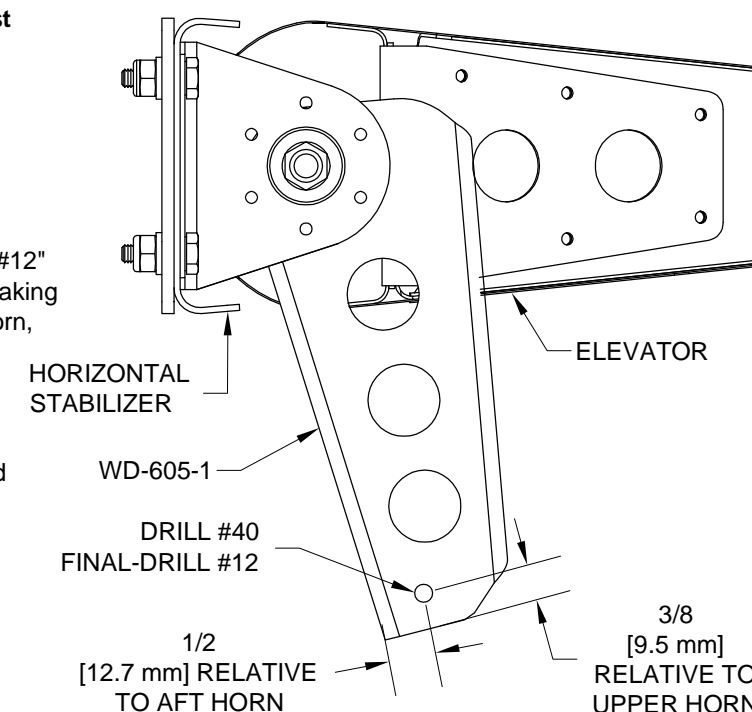

FIGURE 5: ELEVATOR PUSHROD BOLT HOLE
Step 9: Locate the hole indicated by the "DRILL #40/ FINAL-DRILL #12" call-out in Figure 5 by selecting the AFT MOST elevator horn and making a mark 1/2 [12.7 mm] from the front flange. On the same elevator horn, make a mark 3/8 [9.5 mm] from the bottom end of the UPPER horn. Locating the hole in this way guarantees proper edge distance for the hole in both horns.